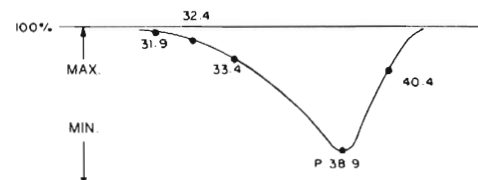

Figure 2
- b) Adjust L103 (Detection Special Quality Adjustment Coil) in order to minimize the PICTURE CARRIER MARK as shown in figure 2.